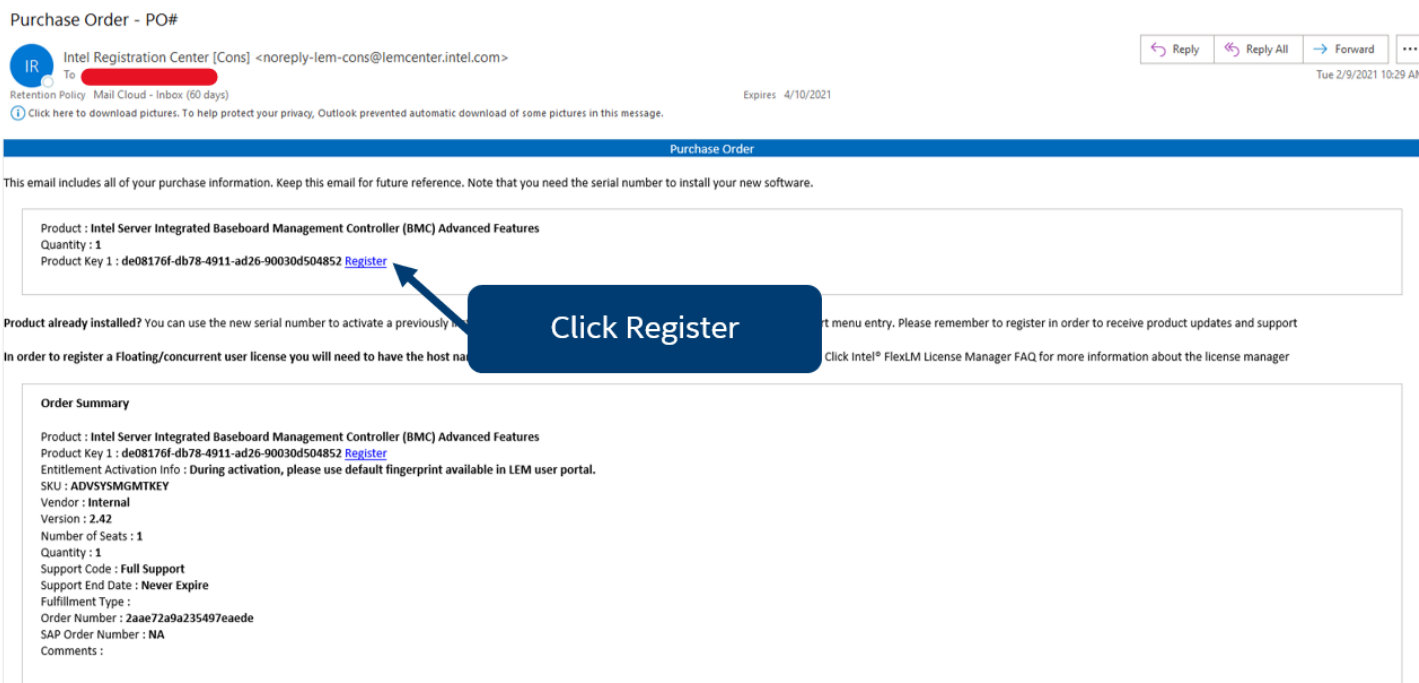

Figure 52. Example Email
3. From the email, Click the **Register** link (see Figure 52) to go to <https://lemcenter.intel.com>